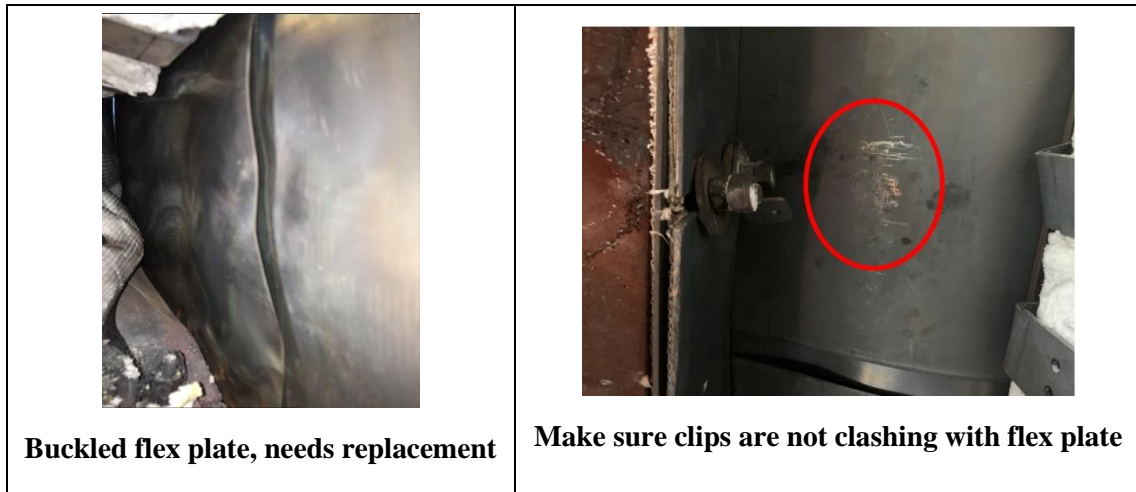

Figure.18: Hardware Inspection
- Figure:5 Inspect that outer flex seals surface for any damage due to the tadpole gasket clips being installed backwards or buckling as shown in Figure.18